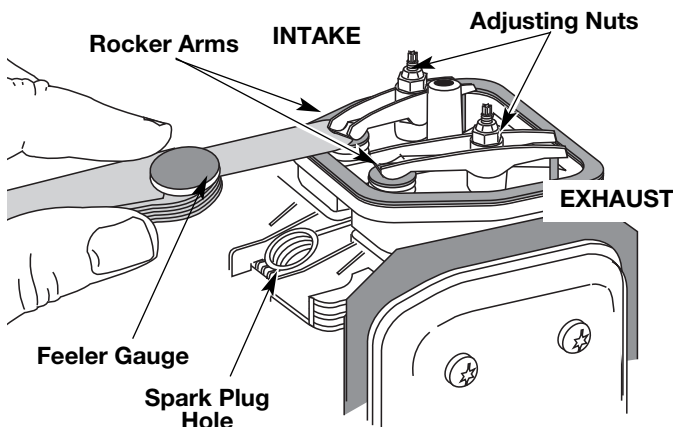

Fig. 29
- The piston is at the top of its travel while looking in the spark plug hole (Fig. 29)
- Slide the feeler gauge between the rocker arm and the valve return spring. Measure the clearance between the valve stem and rocker arm (Fig. 29). Measure both the intake and exhaust valves.
The recommended clearance for both intake and exhaust is .003 – .006 in. (.076 – 0.152 mm). Use a standard automotive .005 in. (0.127 mm) feeler gauge. The feeler gauge should slide between the rocker arm and valve stem with a slight amount of resistance, without binding. See Figures 29 and 30.
- Turn the adjusting nut using a 5/16 inch (8 mm) wrench or nut driver (Fig. 29).